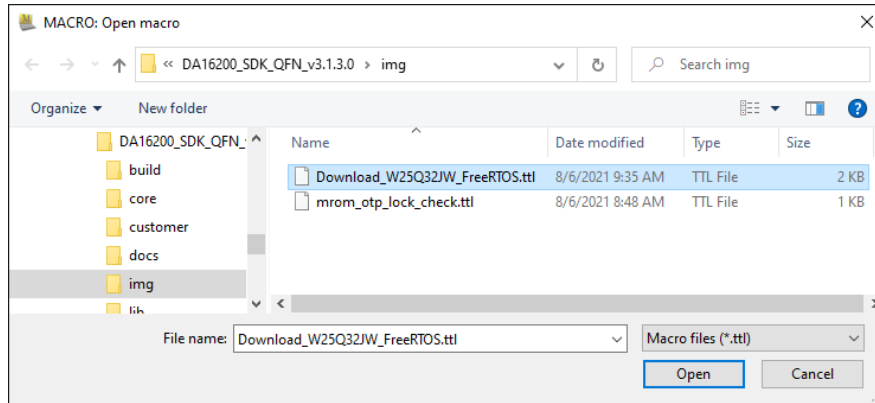

Figure 5. Open macro file
2. When the **MACRO: Open Macro** file selection window opens, navigate to the directory where the firmware images are stored and select the `.ttl` file as shown in Figure 5.